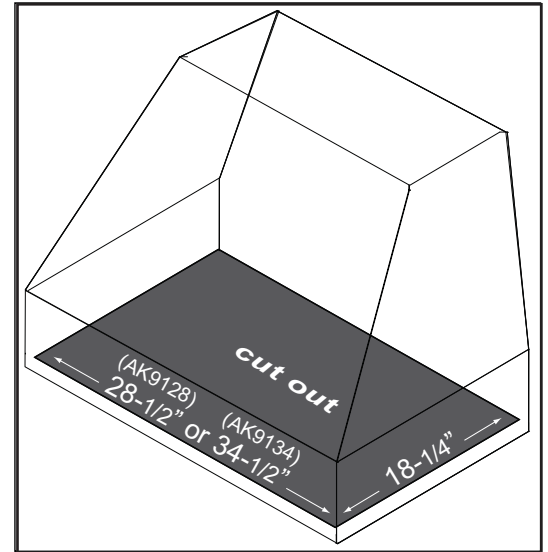
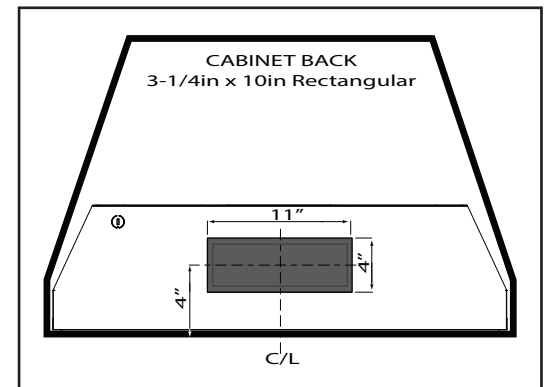

FIG. 1
FIG. 2
2. Cut out an opening in the bottom of the cabinet by following the dimensions in FIG. 1. If ducting the one piece liner horizontally, also cut out an opening in the back of the cabinet (if applicable). FIG. 2.